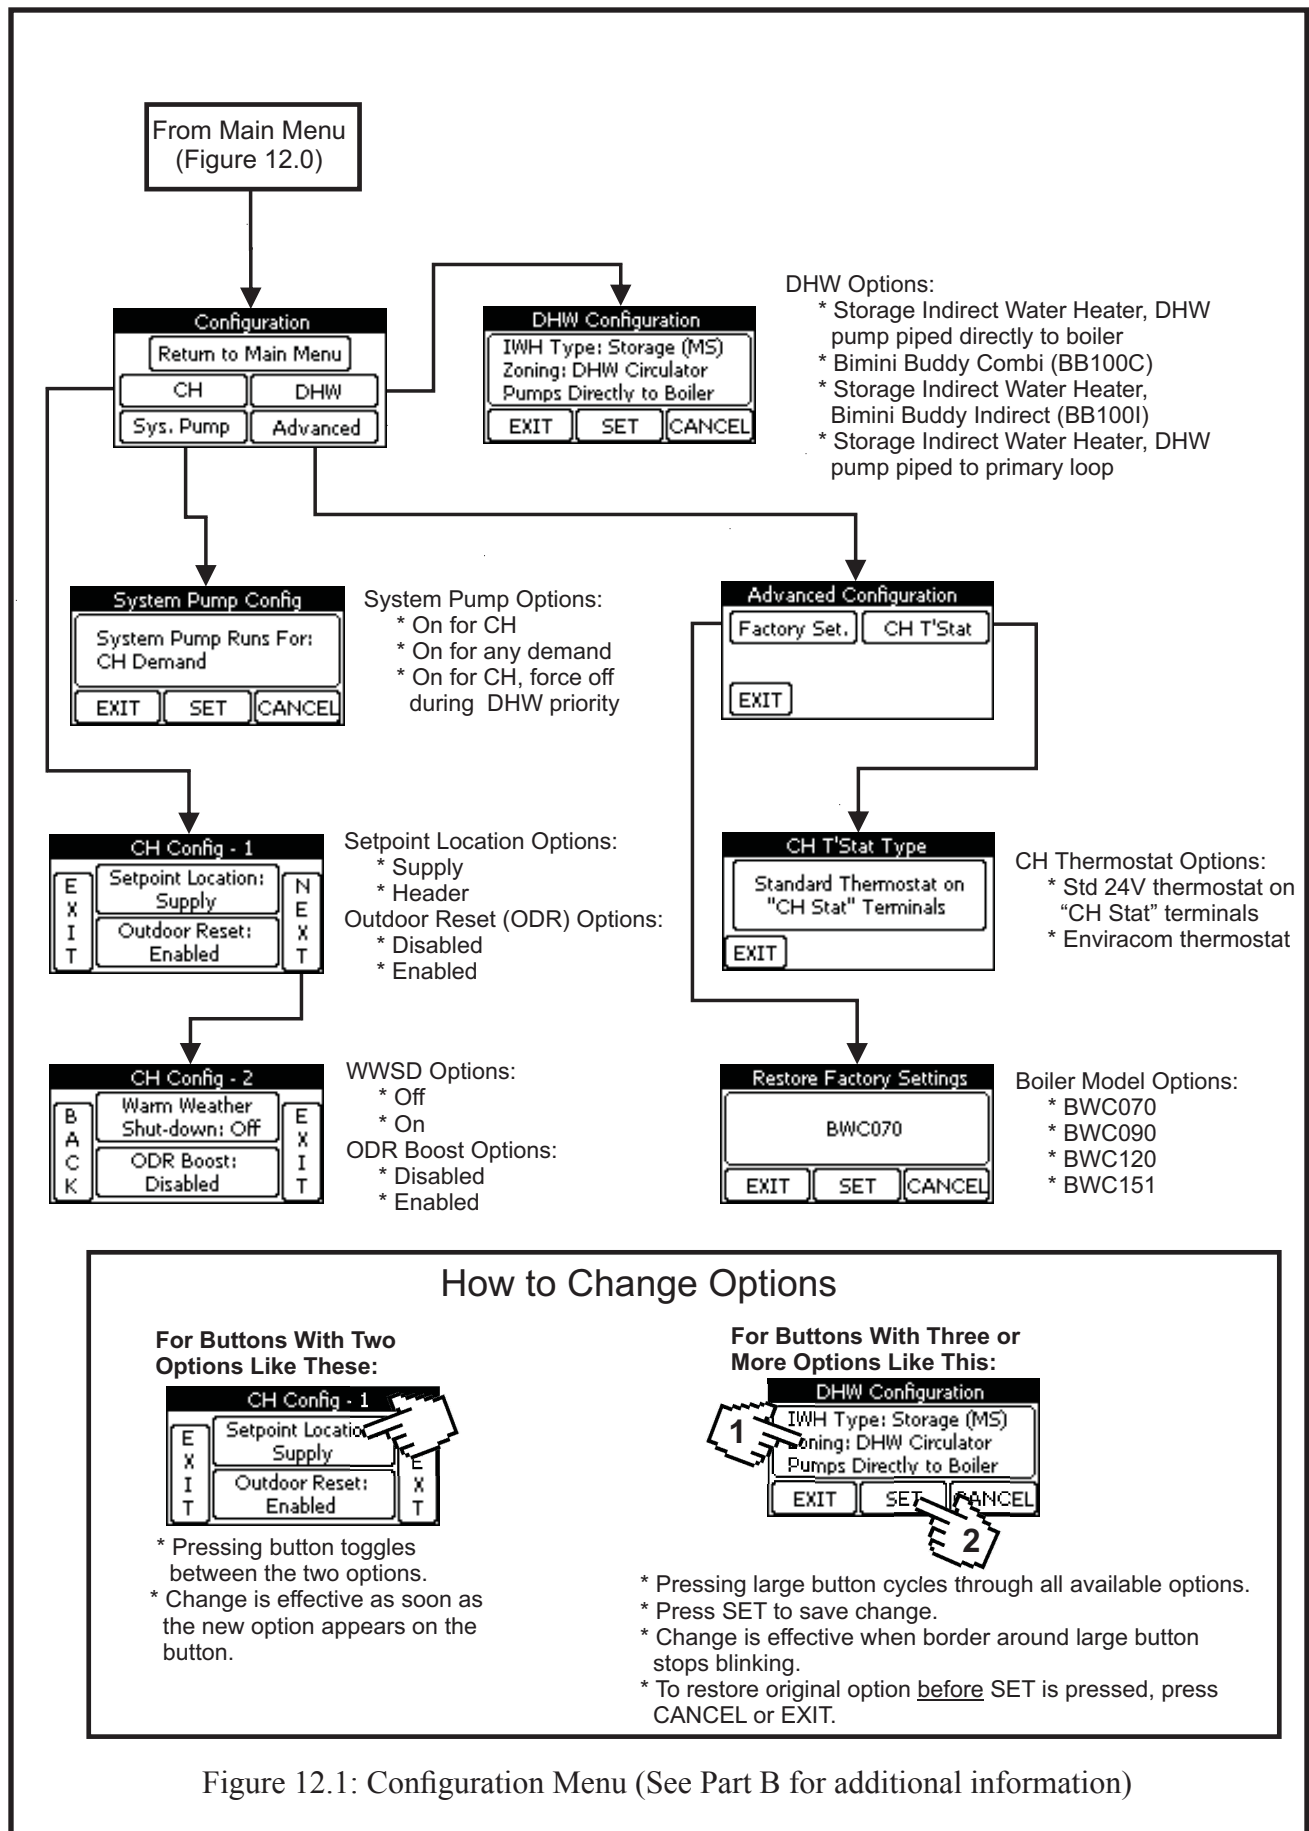

Figure 12.1: Configuration Menu (See Part B for additional information)
Use the Configuration Menu to provide the boiler with basic information about the type of system to which it is connected. On a new installation configure the boiler first, then go to the Settings Menu to set parameters such as target water temperatures. A map of the Configuration Menu structure is shown in figure 12.1. To configure the boiler:
**FACTORY SET** - This button allows the user to restore all factory configuration and setting options. This function can be used to restore all factory settings if a large number of settings are suspect or if the original control is replaced by one that is programmed for use on another size Crown Bimini. Pressing this button brings up the screen shown in Figure 12.1. Press the model number button until the desired model number is reached. When the selection is changed, this button will flash. When the desired model is reached, press SET to select it. When this change is accepted by the control, the button will stop flashing. Press EXIT to Return to the Advanced Configuration Menu. Repeat the set-up process that starts at the beginning of this Section (XII).